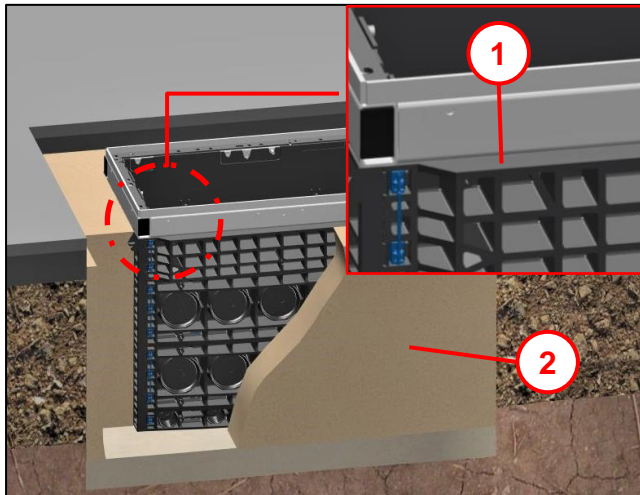

Fig. 30
- Backfill the foundation pit in layers using material suitable for compacting **(3)** in accordance with ZTV A-StB 12 (and/or ZTV E-StB 09) up to the **contact surface of the top frame (2)** (see also Fig. 30).